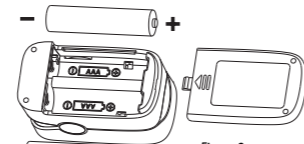

Figure 2: Battery Installation
- Put the two AAA batteries into battery compartment in correct polarities (Figure 2).